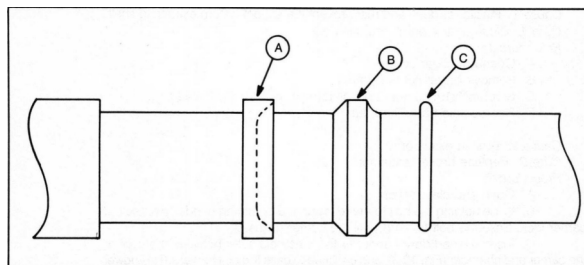

Fig. 12-2. Correct relationship of A: piston, B: piston seal, and C: O-ring.
D. Take the barrel seal (a neoprene O-ring) off the magazine tube and inspect it for abrasions. Any roughness will require replacement. Remove the piston and piston seal (Fig. 12-2) by sliding them off the magazine tube and inspect them for carbon buildup. They must be clean for proper operation of the action.